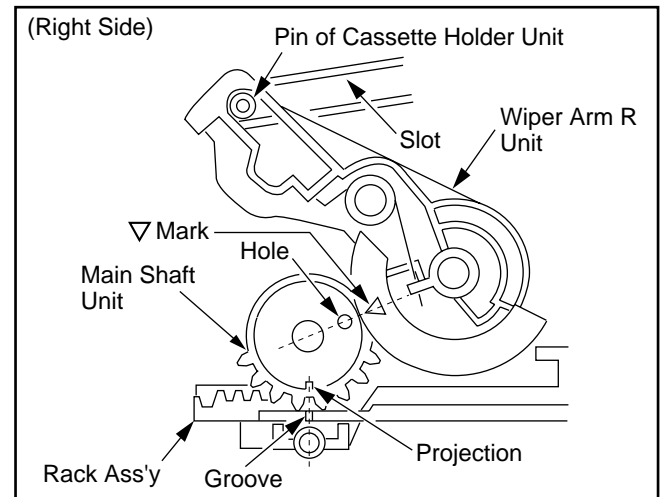

Fig. B3
1. Install the Main Shaft Unit so that the projection on the Main Shaft Unit is aligned with the groove on the Rack Ass'y as shown in Fig. B3.
2. Install the Wiper Arm R Unit so that the ▽ mark on the Wiper Arm R Unit is aligned with the hole on the Main Shaft Unit as shown in Fig. B3.